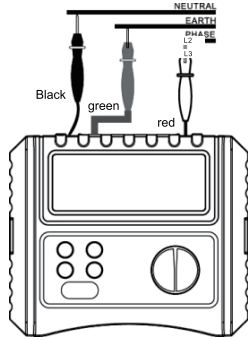
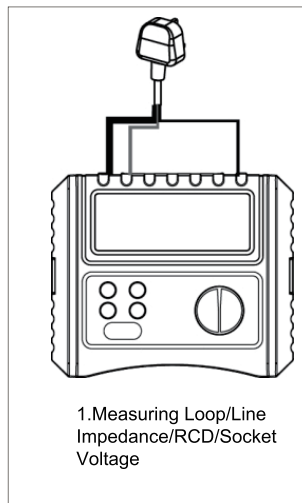

Figure 6
Figure 7
Or connect as shown in Figure 7:
**XI. Detecting Phase Sequence(See Figure 6)**
- (1) Turn the rotary switch to Phase Rotation position.
- (2) Insert three connectors of three test leads into input terminals of the Tester (red to red, green to green, black to black).
- (3) Then connect three test leads into three-phase AC system (black to L1, green to L2, red to L3, refer to Figure 6 for details), after that, the Tester will indicate the phase sequence and open phase result on LCD.
**XI. Measuring Loop Impedance/Prospective Fault Current (See Figure 7, 8)**
**XIII. Measuring Line Impedance/Prospective Short Current (See Figure 7, 8, 9)**
- (1) Turn the rotary switch to NO-TRIP position;
- (2) Insert three connectors of one-plug test leads or three separate test leads into three input terminals of the Tester (red to red, green to green, black to black). (Refer to Figure 6, 7, 8)
- (3) Plug the plug into domestic 220V socket or connect the test probes to the tested lines.
- (4) Press TEST button to start.
**XIV. Taking Auto RCD Tests (See Figure 7)**
- (1) Turn the rotary switch to AUTO position;
- (2) Insert three connectors of one-plug test leads into three input terminals of the Tester (red to red, green to green, black to black). (Refer to Figure 7)
- (3) Plug the plug into domestic 220V socket.
**XV. Taking Regular RCD Tests (See Figure 7)**
- (1) Turn the rotary switch to 1/2\* $\Delta$ n, 1\* $\Delta$ n, 2\* $\Delta$ n (for UT595 only) or 5\* $\Delta$ n position;